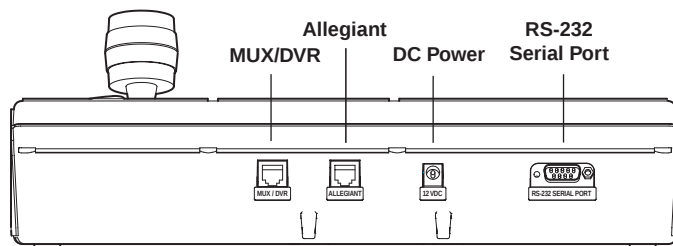

Figure 2-2 Back Panel Connections of IntuiKey
1. Refer to **Figure 2-2** for details on the input/output connections supplied by the IntuiKey Keyboard. Four connectors are located on the IntuiKey rear panel: (2) RJ-11 connectors, (1) female 9-pin sub-D connector, and a DC power jack. The RJ-11 connectors are labeled as **Allegiant** and **MUX/DVR**, and the 9-pin sub-D is labeled **RS-232 Serial Port**.